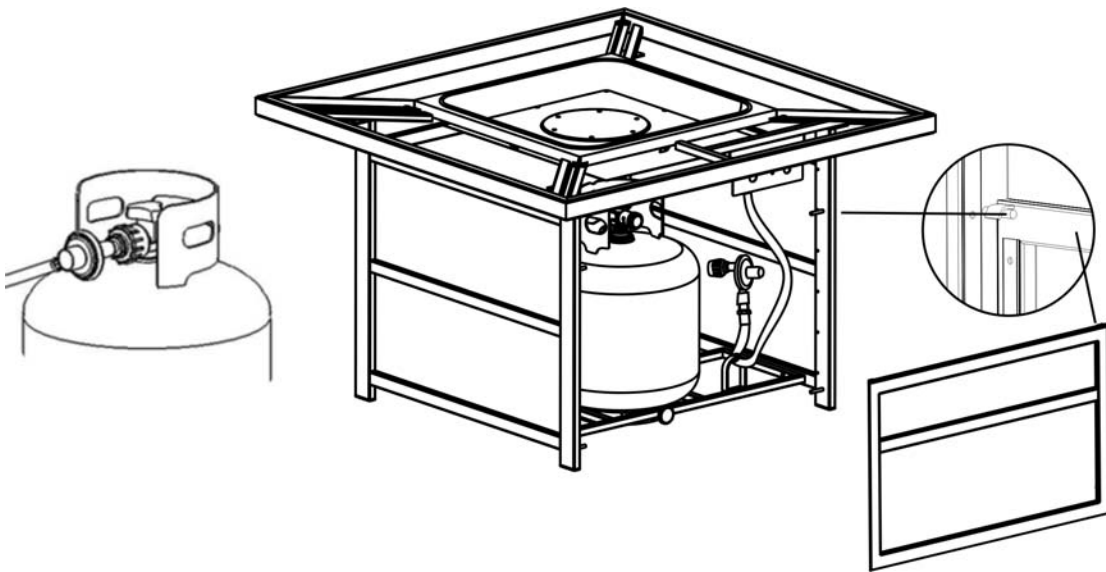

Figure 6
4. With the help of another person, carefully place the table rim onto the firepit base. After making any necessary adjustments to the alignment of the table rim and the assembled base, use four 1/4"x15 mm bolts and Ø18xØ6.5x1.5 mm washers as shown in Figure 6. Guide the bolts through the holes in the side panel brackets, into the predrilled holes in the table rim. **Hand tighten only.**
7. Slide the tank drawer out and place the LP tank in the drawer. Connect the regulator as shown in Figure 6. Turn the black handle clock-wise to tighten. Turn the handle counter clock-wise to remove. The hose must point down. Check that the valve is turned all the way clockwise to the "OFF" position. Open the tank valve. Apply a solution of soapy water to the tank-regulator connection and to the valve-hose connection to check for leaks. If soap bubbles continue to form, the connection has a leak. If a leak is found, close the tank valve and tighten all connections.